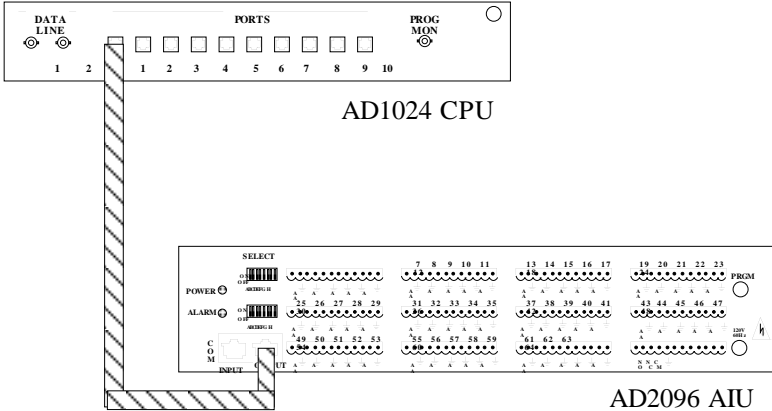

Figure 17 - AD2096 AIU -to- AD1024 CPU (Less Than Seven Feet)
1. Connect a modular cable to the COM OUTPUT port on the AD2096 AIU rear panel (see Figure 17).